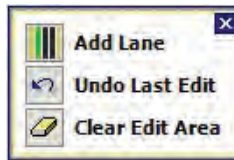

Figure 7.13 – Edit Area Window
- 1 Click in the edit area where you would like to add a lane and the Edit Area window will appear (see Figure 7.13).